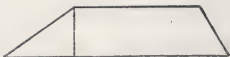

FIG. 20.
**42.** A **trapezoid** (Fig. 20) is a quadrilateral which has only two of its sides parallel.